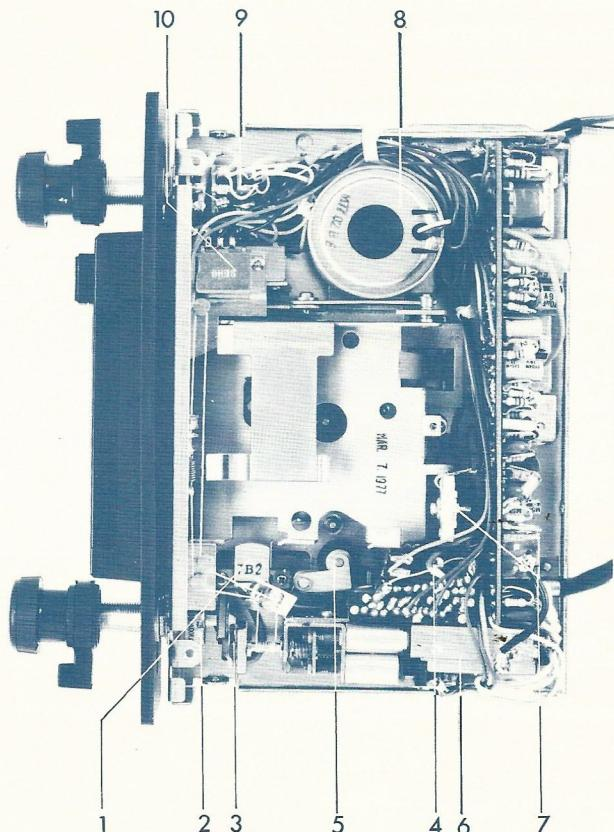

Fig. 5
6. Alignment location details: See Fig. 5 . 9. 10.